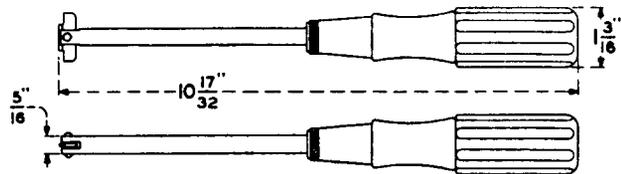

Fig. 3—453A Oil Sight Ring Extractor Tool
2.03 **453A:** The 453A oil sight ring extractor tool (Fig. 3) is used in removing and replacing the oil sight rings of drives and bearings used in dial systems.